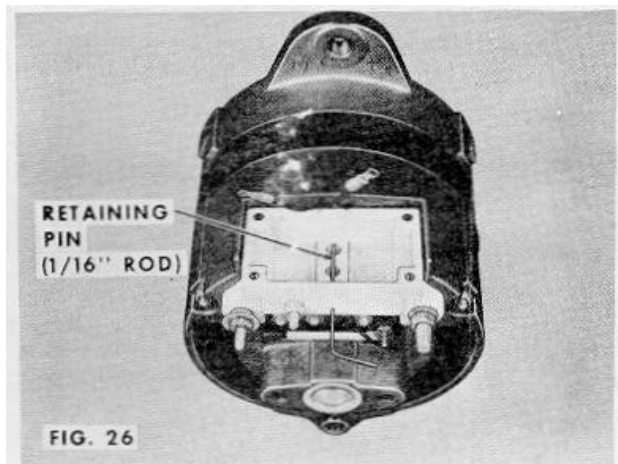

FIG. 26
13. Insert outer brush and spring assembly into the housing and compress the brush spring, using a small screwdriver or similar tool. While holding the spring compressed, insert a pin through the hole in the rear of the housing so that the spring will be held in a compressed position. (A suitable pin can be made from a piece of 1/16" drill rod.) Install and compress the remaining brush and spring assembly in a similar manner. Hold the spring in a compressed position by pushing the pin farther into the housing. (See Figure 26.)
When brush springs have been compressed, hold them in place by passing a pin through the retainer hole. (See Figure 26.) A suitable pin can be made from a piece of 1/16" drill rod.